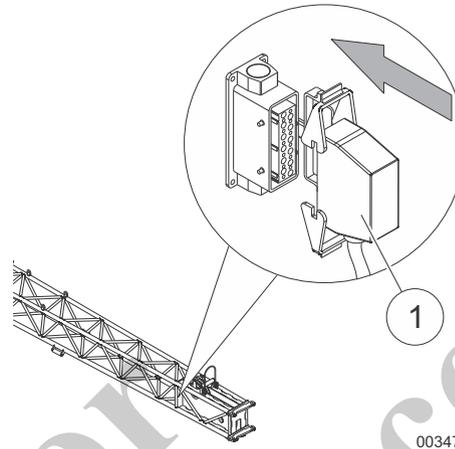

Fig. 173 Inserting the fly boom extension lifting limit switch cable into the fly boom head
| 15 | Insert the lifting limit switch cable of the fly boom extension (1) in Fig. 173 into the socket on the fly boom head. |